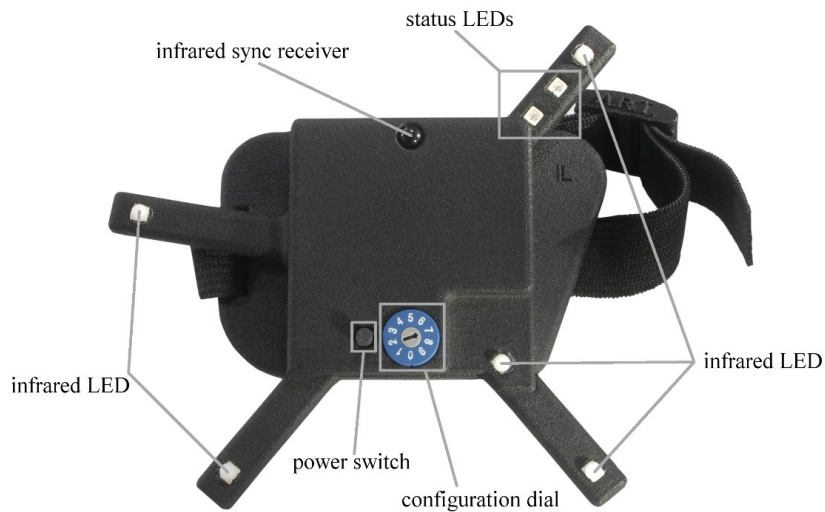

Figure 5.49: *Fingertracking* hand target (discontinued)
- a hand target unit for fixing on the back of the hand with IR LEDs (active markers) for tracking (see figures 5.49 on page 112).
On/off button Pressing the small black button next to the configuration dial activates or deactivates the target (please refer to figure 5.49 on page 112). After turning on the hand target unit, the status LEDs light up according to table 5.11 on page 113. When
Configuration dial The configuration dial is used to select the LED brightness and the number of fingers used in the setup (please refer to figure 5.49 on page 112). A detailed description of the configuration dial may be found in table 5.12 on page 113.
The black sphere on top of the *Fingertracking* hand targets is a receiver for the coded IR flash (i.e. modulated infrared signal) which is used for synchronization (see figure 5.49 on page 112). This coded signal can be generated by all **ARTTRACK** cameras (**DTRACK3** is required). In some cases (discontinued products) an additional external flash is necessary. Please contact your **ART** representative.